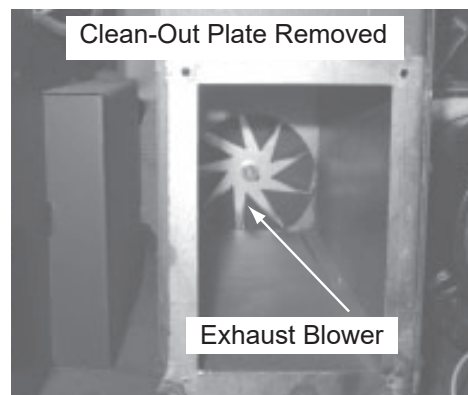

Figure 22.3
- c. Use a small vacuum hose attachment to clean area (**Figure 22.3**).